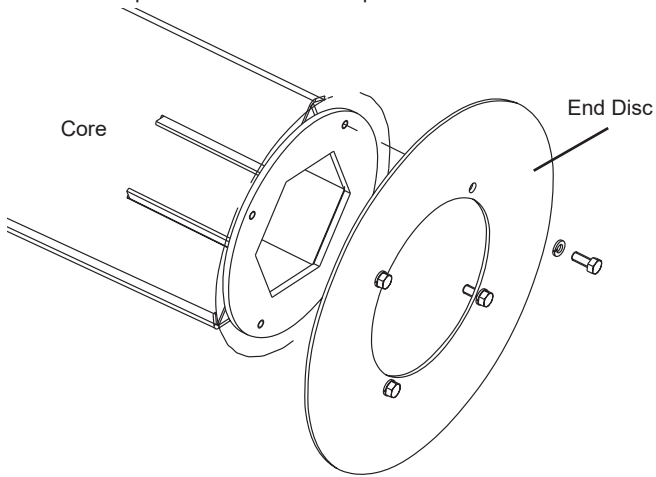

Figure 9
1. Remove (4) capscrews, lock washers and end disc (wafer retainer plate) from one end of core. Retain end disc and mounting hardware. See Figure 9.
5. Install end disc on core with original hardware. See Figure 9.
6. Install splined hub on core with original hardware. See Figure 9.